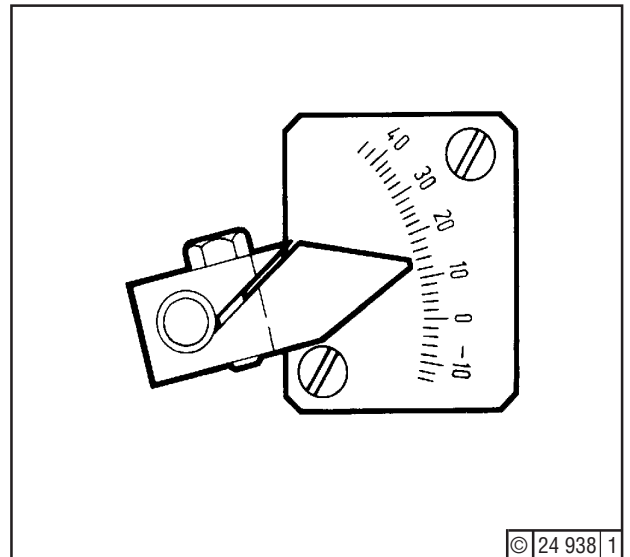

Fig. 18
12. Set stop screw A13 so that load indicator on injection pump points to graduation (14) - Fig. 18.